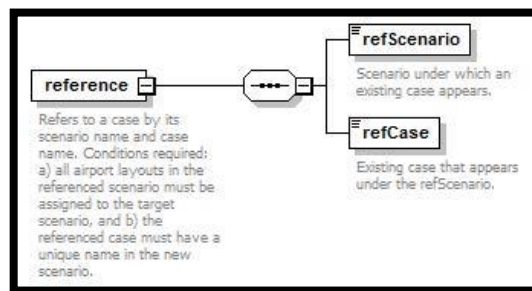

Figure 63 - reference -> case and scenario
14. AsifXml/study/scenario/case/reference (Figure 63):